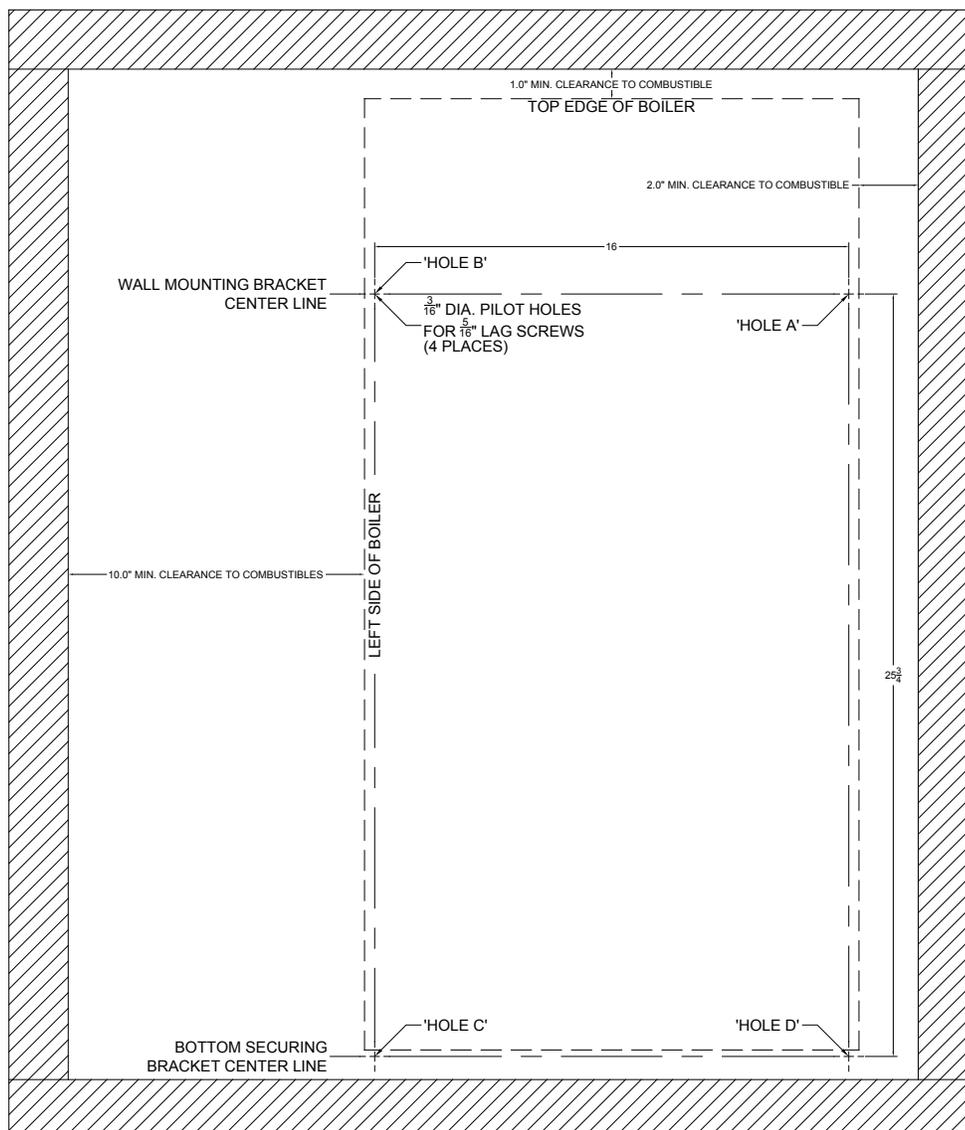

Figure 3-3: Wall Mounting Hole Location / Layout
- f. Once a suitable location has been selected for the boiler, and any needed modifications have been made to the wall, use Figure 3-3 to locate and layout holes "A" and "B". These holes must be positioned on mounting stud centers if the boiler is installed on a framed wall. Make sure that the horizontal centerline of these holes is level. Holes "C" and "D" may also be drilled at this time, or after the boiler is hung on the wall. If the 5/16 x 2 in. lag screws are used, drill 3/16 in. pilot holes.